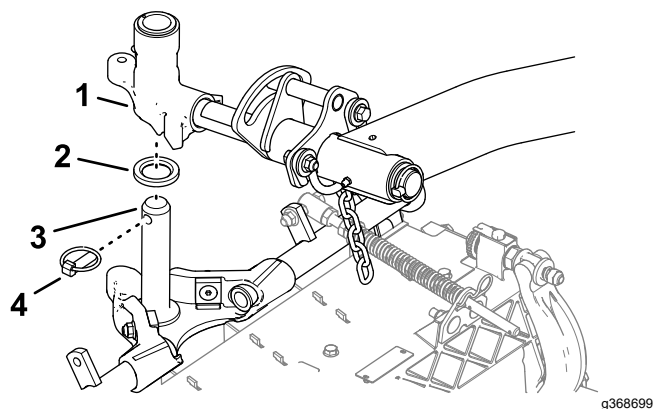

Figure 16
- Slide a cutting unit under the lift arm (Figure 16).